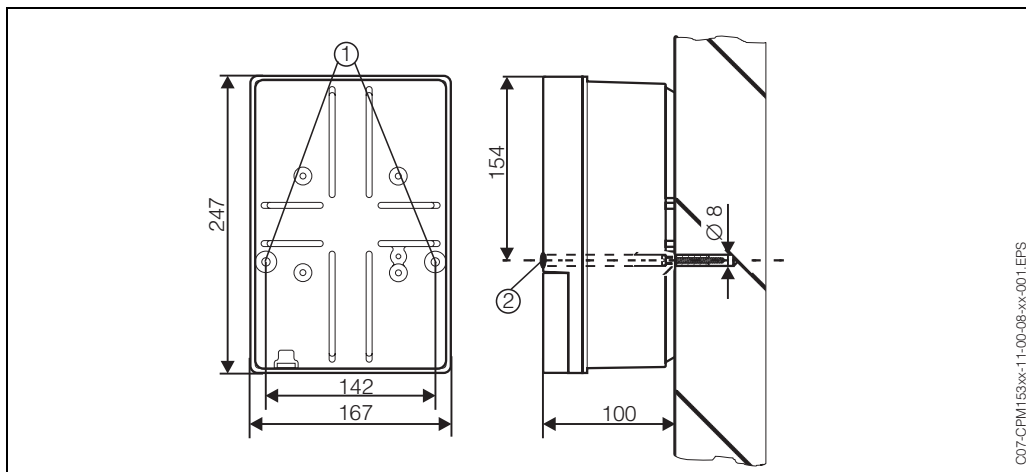

Fig. 2: Dimensions for wall mounting: Fixing screw:  $\varnothing$  6 mm
1. Prepare drill holes acc. to Fig. 2.
2. Push both fixing screws through the appropriate fixing drill holes ①.
4. Cover the drill holes with the plastic cover caps ②.